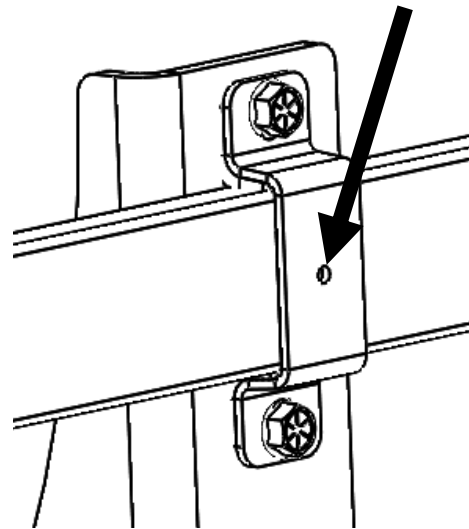

Figure 2.1 (Bracket hole for self-drilling screw)
2. Using a single sealing washer with each of the self-drilling screws, begin drilling the screws in place at the locations highlighted in Figures 2.1 and 2.2 (eight in total).